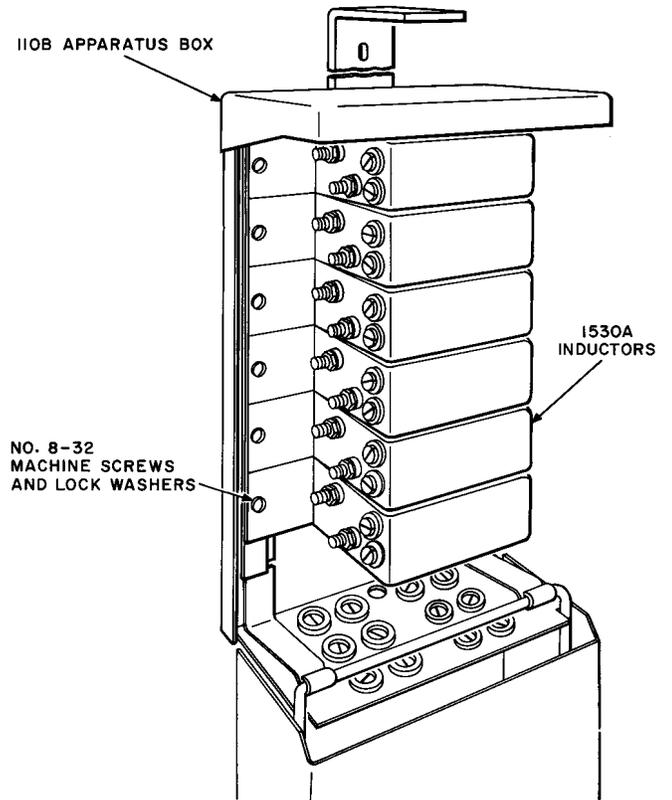

Fig. 10—110B Apparatus Box Equipped with Inductors
6.03 An apparatus box equipped with inductors is shown in Fig. 10.